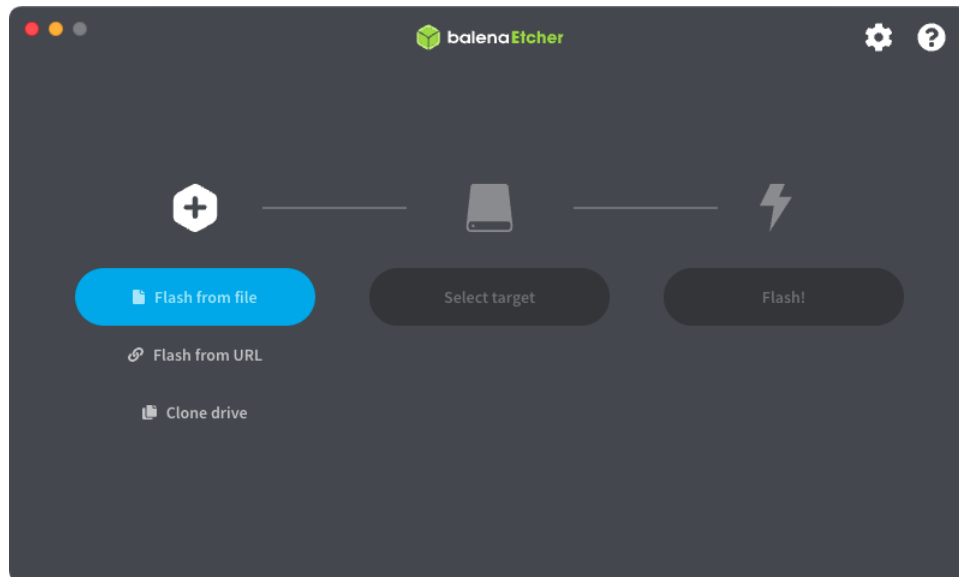

Figure 3. The Etcher application program.
1. Insert a microSD card (8 GB or larger) into your computer's SD-card reader/writer, and then launch the etcher (also called *balenaEtcher*) program, as illustrated in Figure 3.